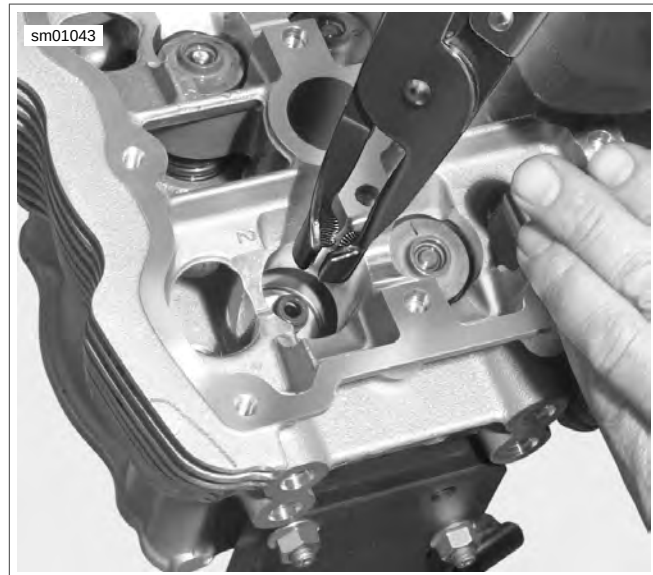

Figure 3-61. Valve Seal
4. See Figure 3-61. Remove valve guide seal with SNAP-ON VALVE STEM SEAL PLIERS (Part No. YA8230).